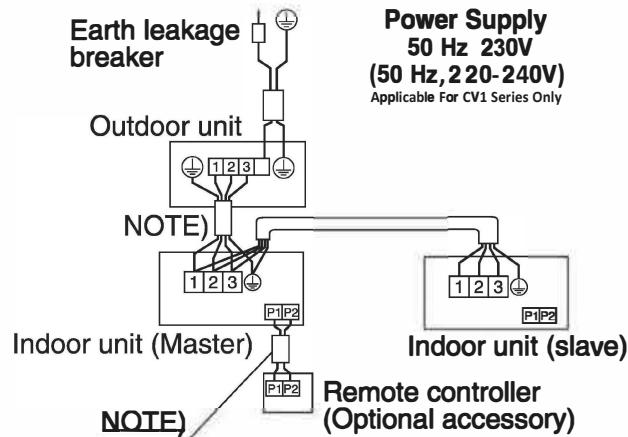

Fig. 30
- **Simultaneous operation system:** 1 remote controller controls 2 indoor unit (2 indoor units operates equally). (Refer to Fig.30)
- (1) Remove the control box lid. (See "8. ELECTRIC WIRING WORK".)
- (2) Cross-wire the terminal block for remote controller (P₁, P₂) inside the control box. (There is no polarity.) (Refer to Fig. 30 and Table 5)